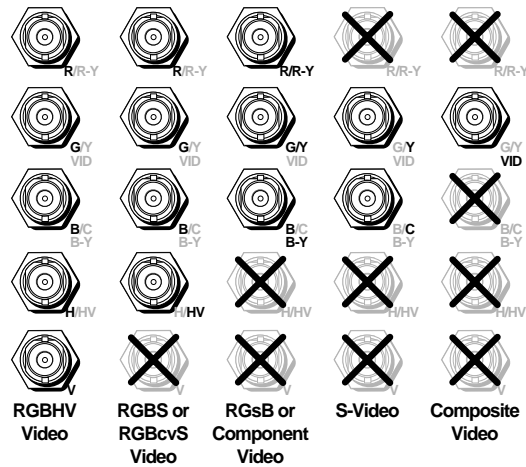

Figure 4. Connections for Various Input Video Formats
- ① **AC power connector** — Plug a standard IEC power cord into this connector to connect the switcher to a 100 to 240 VAC, 50 Hz or 60 Hz power source.
- ② **Input video connectors** — Connect computer or RGB video, component video, S-video, or composite video sources to these female BNC connectors. Figure 4 on the next page shows how to connect the various video formats.